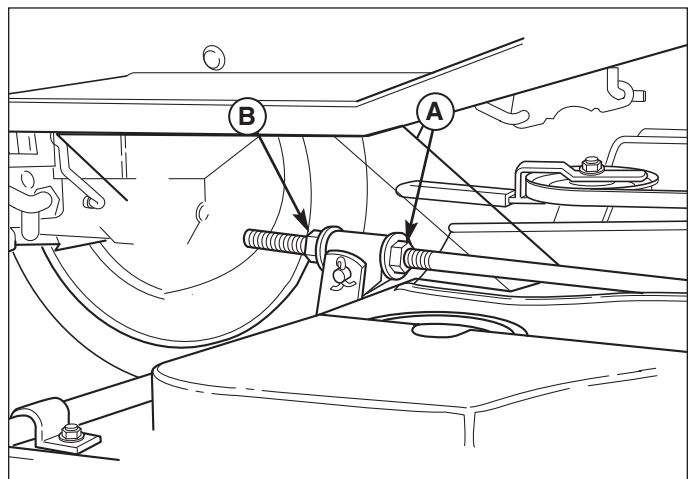

Figure 37. Leveling The Mower Front-To-Back
The cutting height adjustment lever (A, Figure 37) controls the mower cutting height. Push the button to release the lever. Move the lever back to raise the deck and forward to lower it.
8. To raise front of mower deck, loosen front nut (B) and turn rear nut (A, Figure 37) against bracket. To lower front of mower deck, loosen rear nut (A) and the bracket will move backwards to lengthen rod.
9. Re-check the blade measurement then tighten the front nut (B) against the bracket to secure.